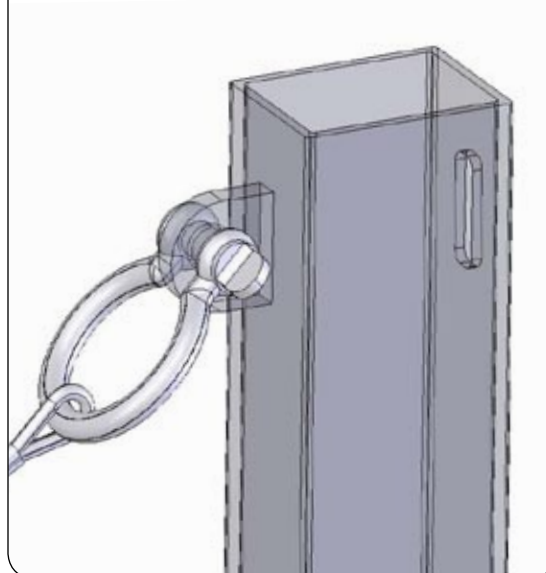

Fig. 11 Late Version cable-gin pole assembly details
- “B” and “C” model gin poles – connect the second cable to the welded tab on the gin pole using a shackle as shown in **Figs. 11 and 12**.